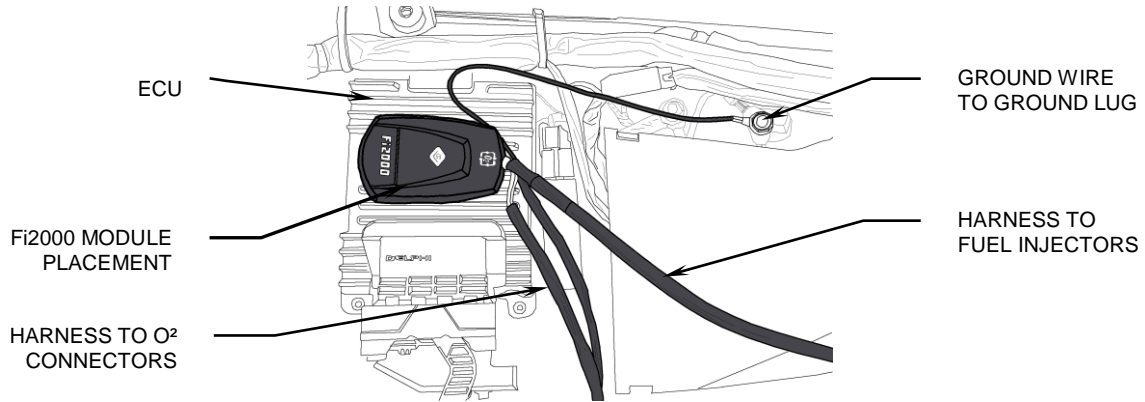

FIGURE 1
2. Place the Fi2000 module on top of the ECU, see Figure 1. Run the two oxygen sensor harnesses inside the right side frame rail and plastic housing for the stock wiring. Look for the fuel tank vent hose and follow it.
10. Attach the ground wire to the ground lug and Velcro the Fi2000 module to the top of the stock ECU, see Figure 1.
11. Before lowering the fuel tank, and replacing the seat, verify your connections. Remove the door from the Fi2000 box to expose the LED's. Verify the wire connections by (1) turning the ignition on, prior to starting, and see if all three LED's are on steady. If you have no light, your ground connection (BLACK wire) has not made proper contact or your front injector connection is not complete. (2) After achieving a steady light from all three LED's, start the motorcycle, wait 15 seconds and let it idle, the green light should now be the only LED on. If all three LED's are still on after start up, verify you have attached the injector connectors correctly. Reattach the door when finished. **Note:** Make sure the ignition is turned off before changing any connection.